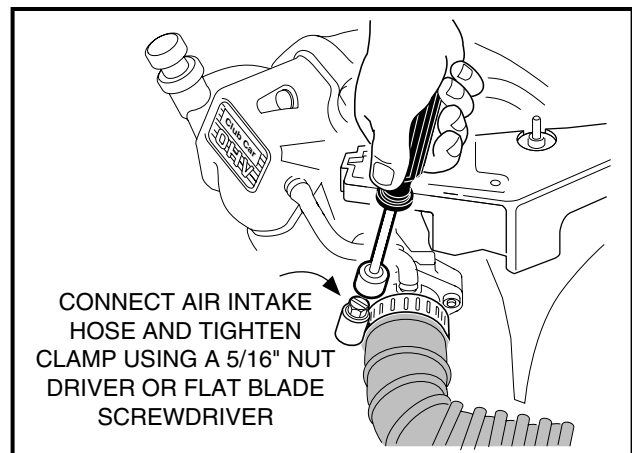

FIGURE 10-103
25. Connect the air intake hose to the carburetor and secure the hose clamp (**Figure 10-103**).